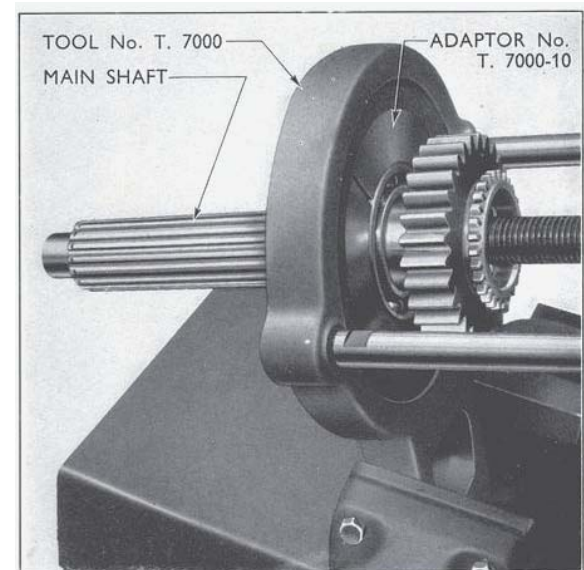

Fig. 20
- (ii) *To assemble the ball bearing to the shaft, place adaptors T.7000-10 in Tool No. T.7000, locate the bearing on the shaft and place this assembly in the tool with the front face of the bearing located in the adaptors (see Fig. 20). Press the bearing into position to seat against the shoulder directly behind the gear.*